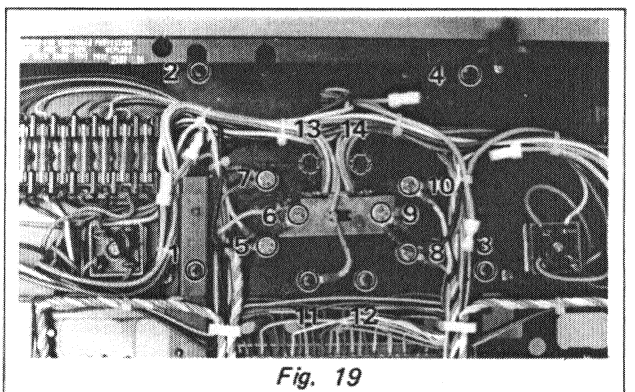

Fig. 19
- a. First remove the bottom cover and front panel, then take off screws (1) to (4) as shown in Fig. 19. Then remove the power electrolytic capacitor.
- b. Next remove terminal screws (5) to (10) as shown in Fig. 19, followed by the mounting screws (11) to (14). Now remove the capacitor.